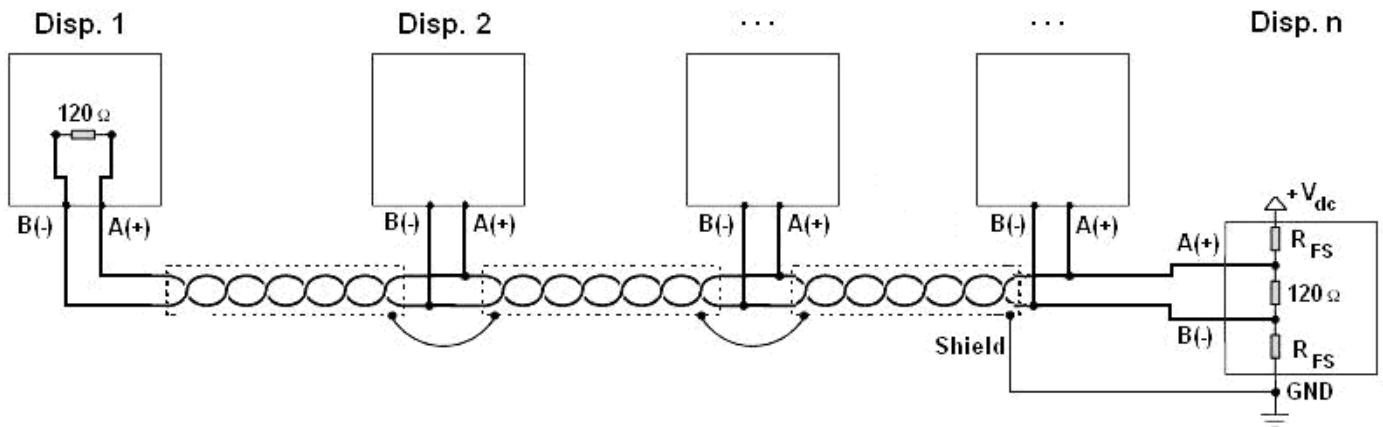

Figure 1: electrical diagram of RS485 connections.
- The shielding can be connected into a single point of the entire network (as shown in Figure 1) or both its ends, however it's important that **all the masses have the same potential**, in order to avoid the forming of current rings.
- On the RS485 network normally one connects 2 **termination resistances** equal to the characteristic impedance of the cable (typically 120 Ω, see Figure 1), **ONLY** on the 2 devices **which are at the 2 ends of the ring connection** (for example indicator and last device). The terminal resistance is not supplied with the ports of the indicator.
To create a resistive divider which maintains this difference of potential also when all the transmitters are disabled, inert in the RS485 port of the indicator where there are the termination resistances, the **polarisation or fail-safe resistences** (R_{FS} in Figure 1). The value of these resistances is between 390 Ω and 2,2 kΩ.